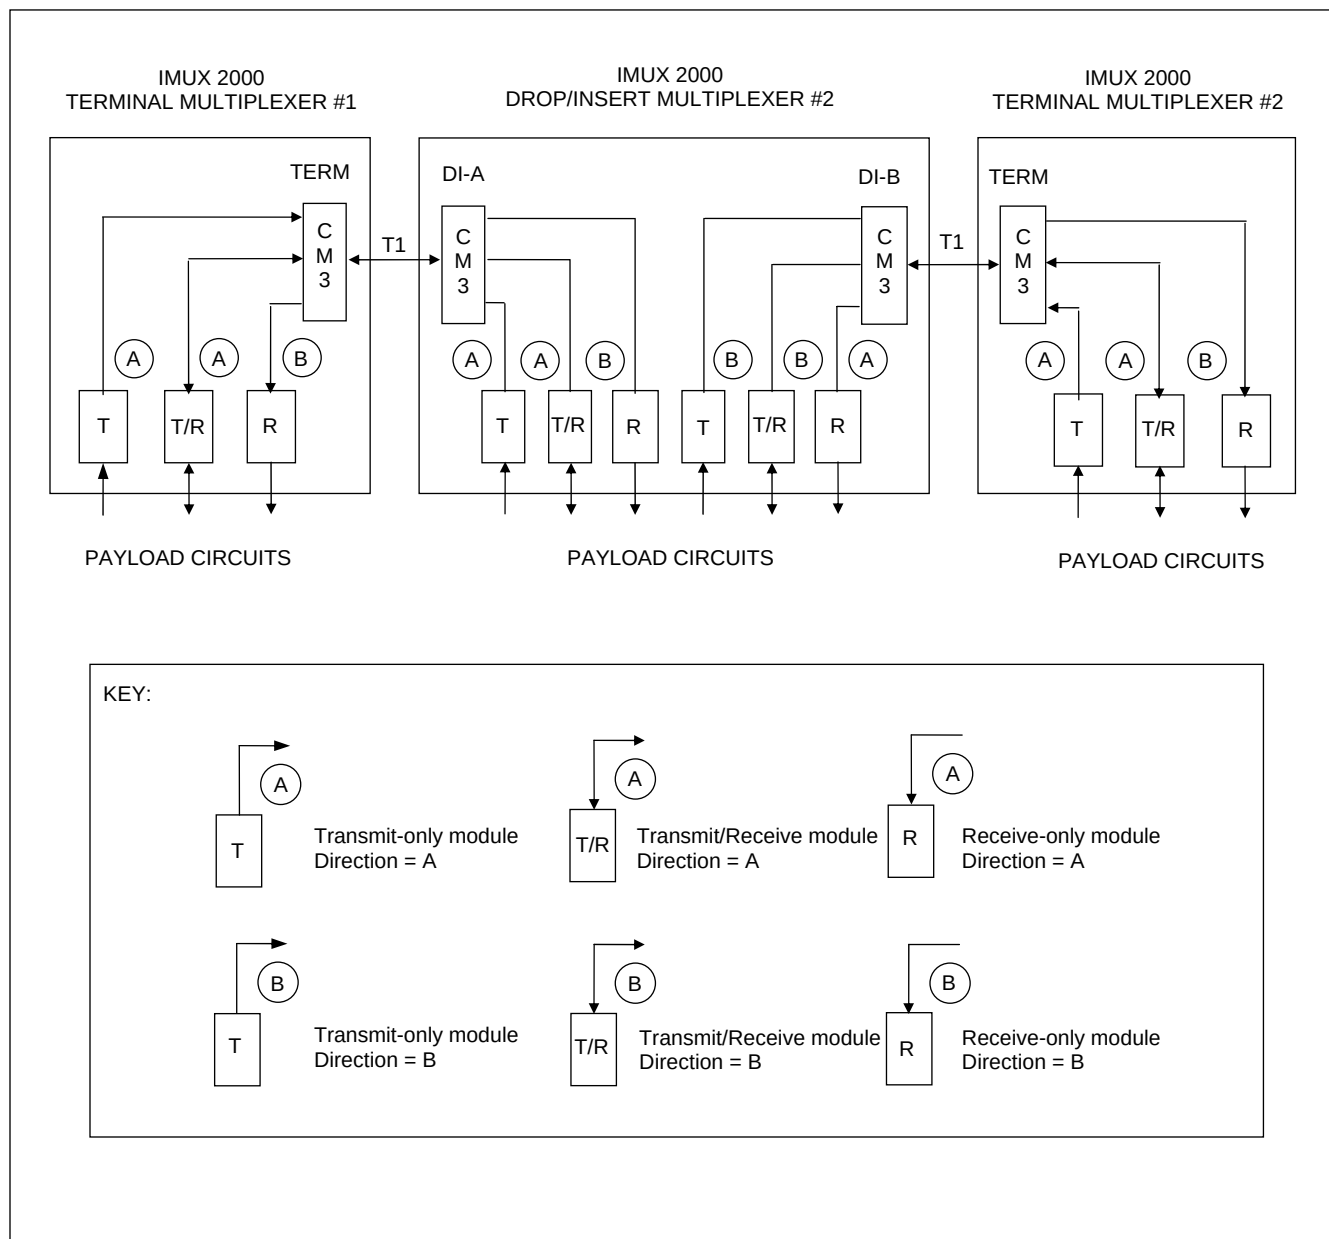

Figure 5-2. Channel direction setup for transmit-only, transmit/receive, and receive-only channel modules
Figure 5-2 further illustrates this subject by showing multiple channel modules of various types in a three-node system, using both terminal and drop/insert multiplexers. It is important to note that **channel module direction does not correspond to a particular geographic direction (such as east or west), or to a particular topological direction (such as towards Location 1 or towards Location 2).**
For example, in Figure 5-2, the transmit-receive (T/R) and transmit-only (T) channel modules in multiplexers #1 and #2 that are configured to transmit in the “A” direction, actually transmit in opposite directions over the same T1 facility.